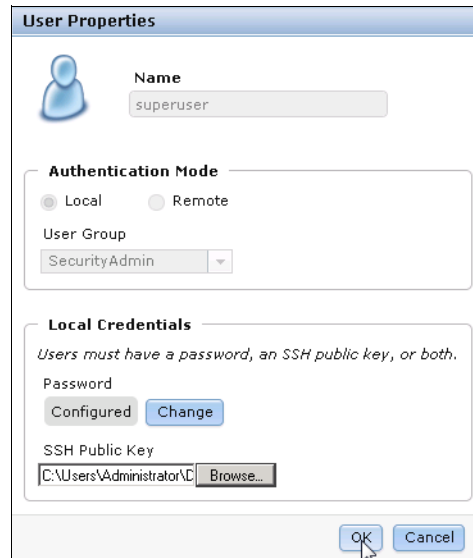

Figure A-7 Select public key
3. To upload the public key, click **Browse**, select your public key, and click **OK** (Figure A-7).